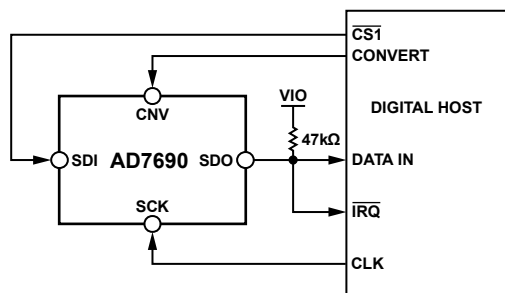
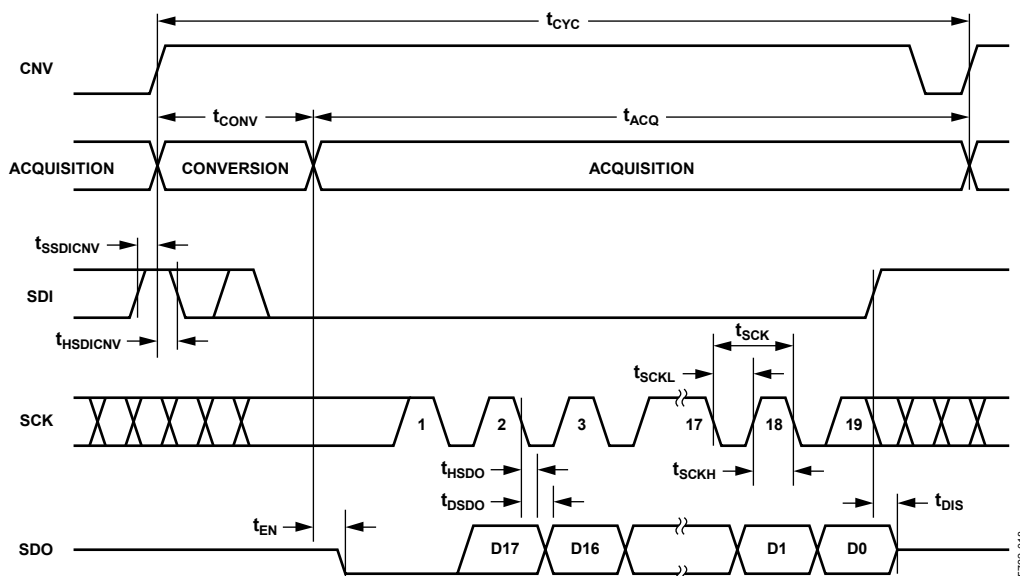

Figure 40. 4-Wire  $\overline{\text{CS}}$  Mode with Busy Indicator Connection Diagram
Figure 41. 4-Wire  $\overline{\text{CS}}$  Mode with Busy Indicator Serial Interface Timing
- In  $\overline{\text{CS}}$  mode if CNV or SDI is low when the ADC conversion ends (see Figure 37 and Figure 41).
The connection diagram is shown in Figure 40, and the corresponding timing is given in Figure 41.